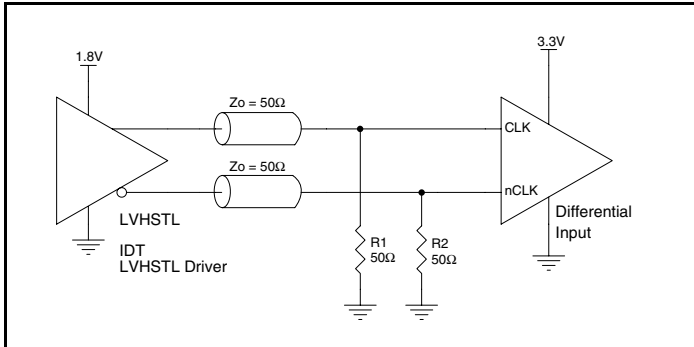

**Figure 2. Recommended Schematic for Wiring a Differential Input to Accept Single-ended Levels**
*Figure 2* shows how a differential input can be wired to accept single ended levels. The reference voltage  $V_{REF} = V_{CC}/2$  is generated by the bias resistors  $R1$  and  $R2$ . The bypass capacitor ( $C1$ ) is used to help filter noise on the DC bias. This bias circuit should be located as close to the input pin as possible. The ratio of  $R1$  and  $R2$  might need to be adjusted to position the  $V_{REF}$  in the center of the input voltage swing. For example, if the input clock swing is  $2.5\text{V}$  and  $V_{CC} = 3.3\text{V}$ ,  $R1$  and  $R2$  value should be adjusted to set  $V_{REF}$  at  $1.25\text{V}$ . The values below are for when both the single ended swing and  $V_{CC}$  are at the same voltage. This configuration requires that the sum of the output impedance of the driver ( $R_o$ ) and the series resistance ( $R_s$ ) equals the transmission line impedance. In addition, matched termination at the input will attenuate the signal in half. This can be done in one of two ways. First,  $R3$  and  $R4$  in parallel should equal the transmission line